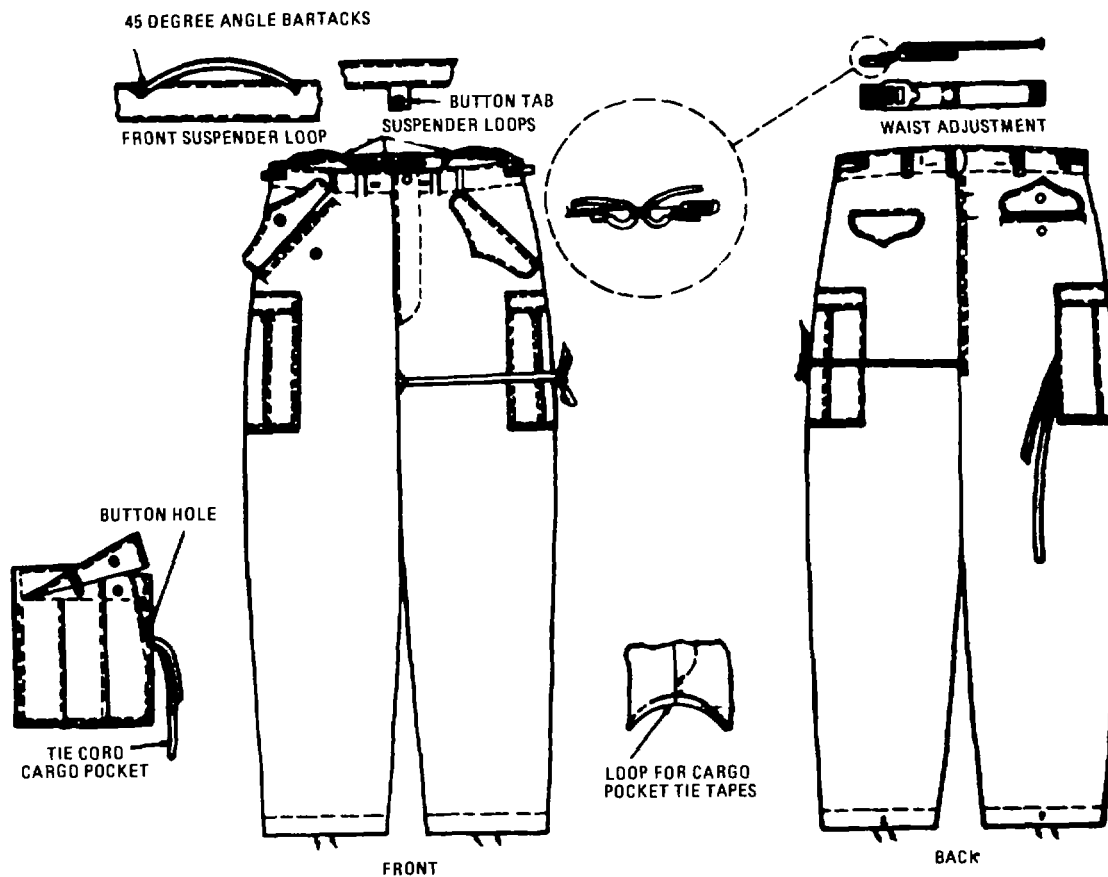

Figure 10-2. Men's trousers
- b. Trousers, Men's, cotton and nylon wind resistant sateen, Army Shade OG 107, MIL-T-43497, class 1, (NSN's 8405-00-782-2948 through 8405-00-782-2961) and Class 2, Camouflage Printed (NSN's 8415-01-099-7853 through 8415-01-099-7862). The men's cotton and nylon wind resistant sateen trousers have a slide fastener closure and a slide buckle waist adjustment. There are snap fastener closed front pockets and rear pockets and two cargo pockets with tie tapes Button tabs are provided in the waistband for attaching the trouser liners. (See figure 10-2 )